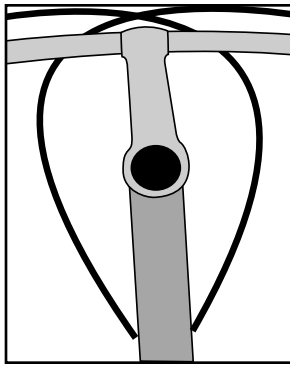

Fig. 16
3. The cables go around the head tube; the left shift cable enters the front of the top tube on the right side. The right shift cable enters the top tube on the left side (Fig. 16). This routing results in low cable friction and prevents the housing from rubbing on the paint of the head tube.